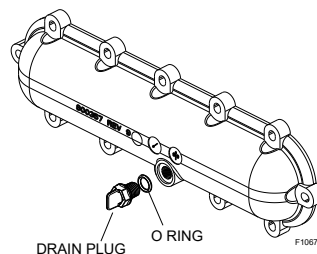
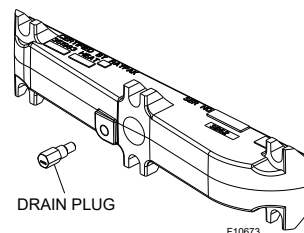

Figure 74. Return Header Drain Plug - Residential ("P" Prefix Model)
Figure 75. Return Header Drain Valve - Commercial ("B" Prefix Model)
2. Remove the ProTek Shield™ Assembly (if attached). Remove the heat exchanger inspection panel on the side opposite water piping to gain access to the drain plug on the return header. Open drain plug on return header. See **Figure 74** and **Figure 75**.